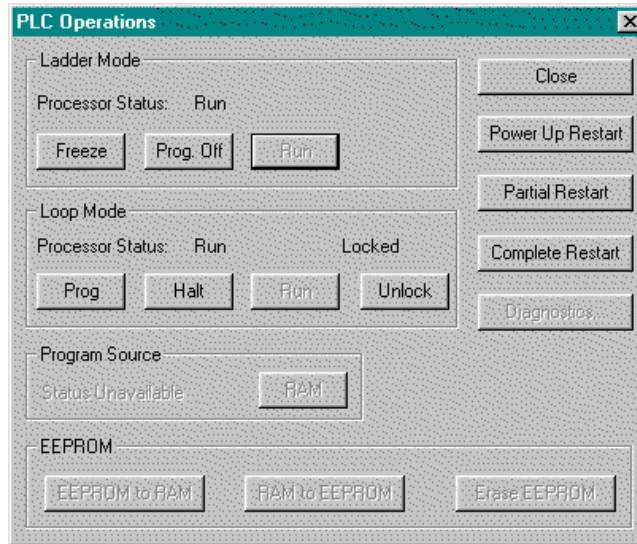

Figure 6.12
1. Click **PLC Operations** from the **PLC Utilities** menu (Alt+U, O). The PLC Operations dialog box appears (Figure 6.12).
2. When you have S-memory configured, you receive a display with three fields, as shown in Figure 6.12, to change operating mode. Use the mouse or arrow keys to select the desired field.